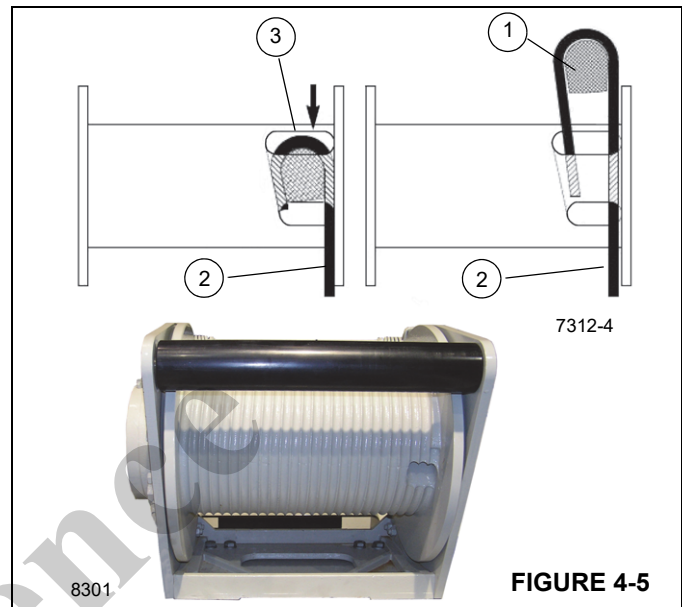

FIGURE 4-5
2. Install the end of the cable into the hoist using the wedge socket provided(1) (Figure 4-5).